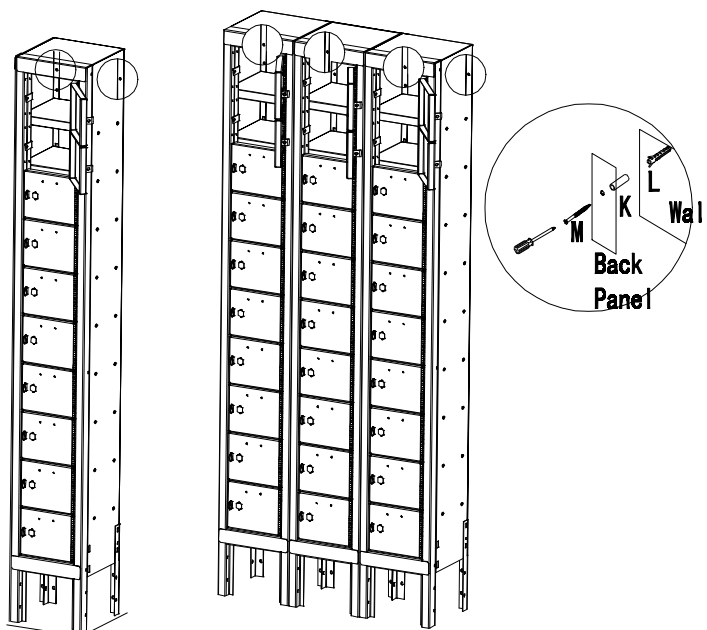

Figure 14
Position the cell phone locker against the wall and adjust the leg levelers. Pre-drill holes in the wall and insert the plastic anchor (L) into the wall. Align the long screws (M) and tube (K) directly to the unit for placement onto the wall. (Figure 14)